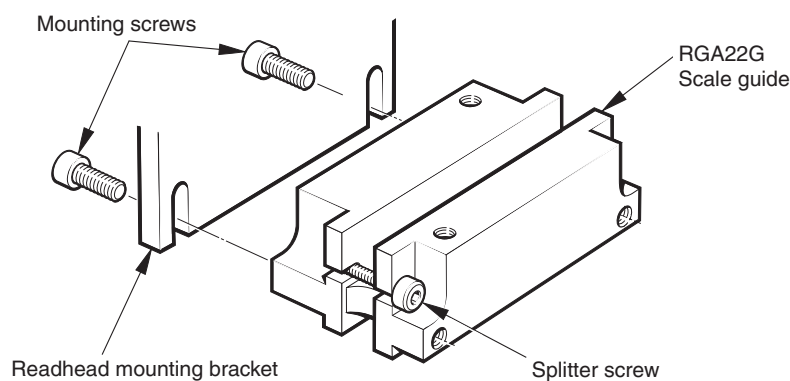

Figure 1
- ▶ Mount the scale guide to the readhead bracket as shown in Figure 1.
- ▶ Remove the splitter screw (see Figure 1) from the scale guide body by turning until the flats on the screw are parallel to the slot.